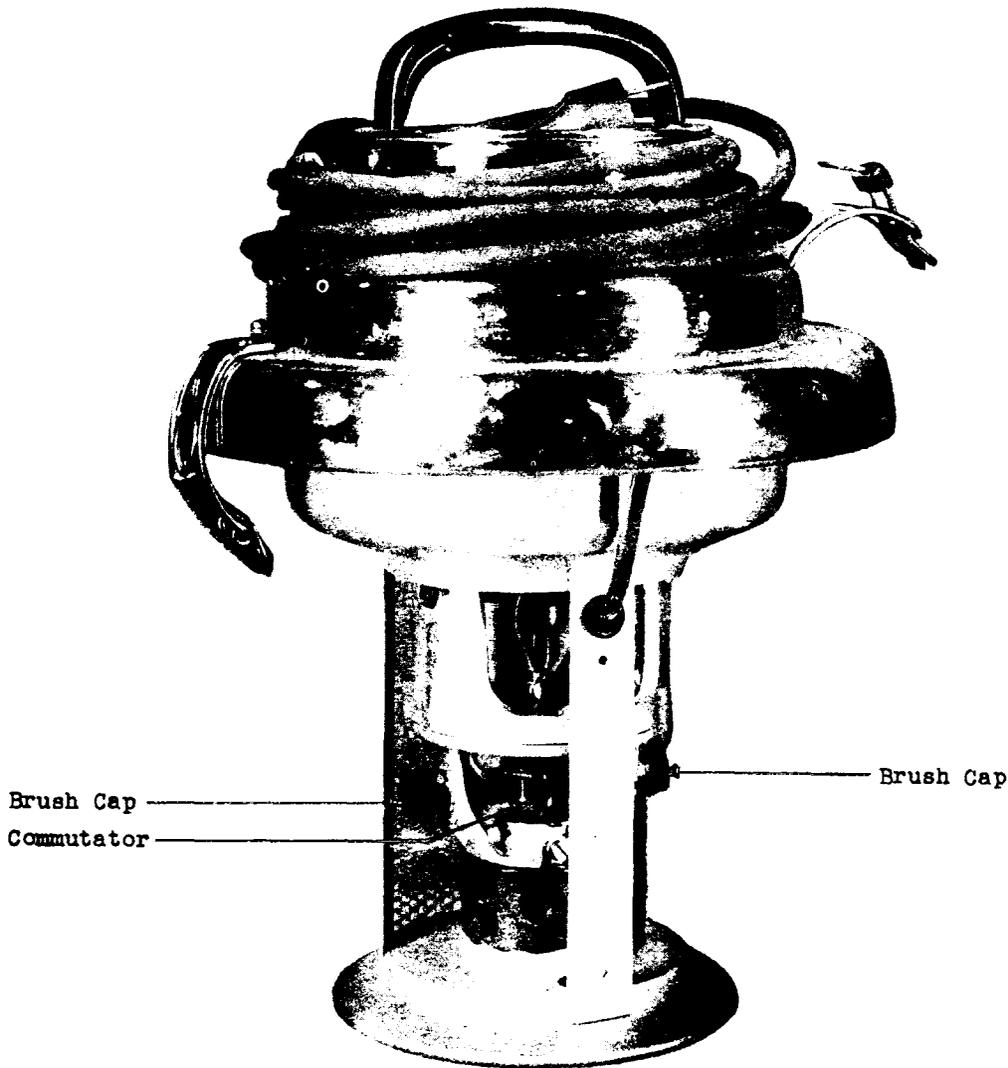

Fig. 4 - Motor Unit - Shield Removed
(6) Clean the commutator, Fig. 4, as required by rubbing with a clean KS-14666 cloth.
- (3) Remove the brush caps, Fig.4. Notice the position of the brushes in the holders. Remove and inspect the brushes. If the brush lengths meet the requirement, place them back in the holders be-